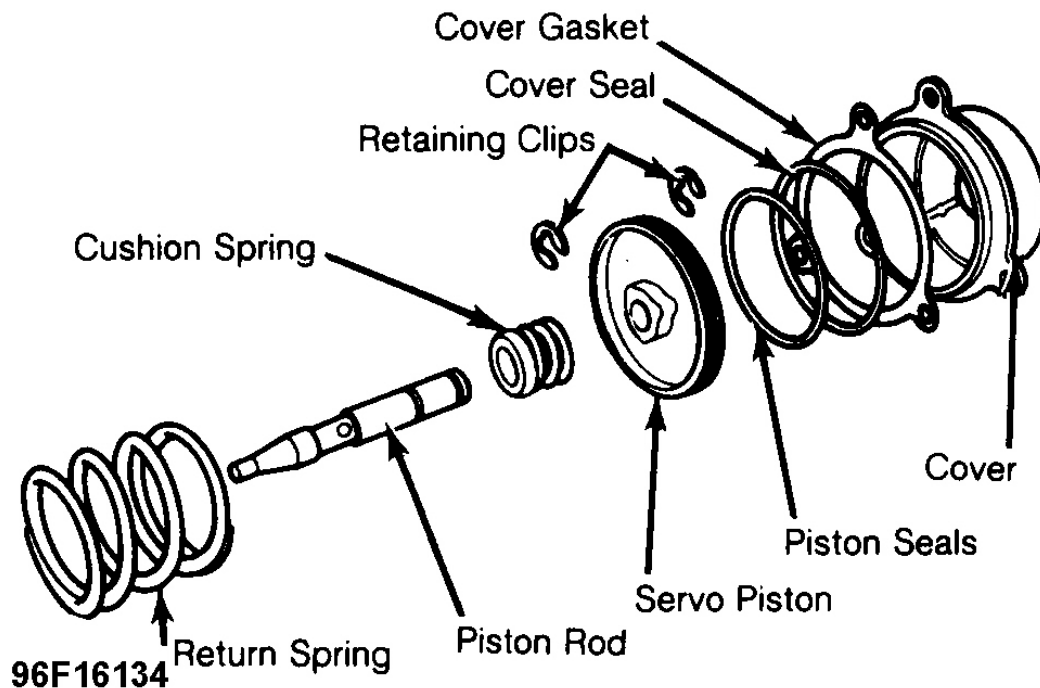

Fig. 27: Differential Left Side Gear Installation
1. With output shaft inside case, slide thrust washer and left side gear onto output shaft. Install retaining ring and slide gear down over ring. See **Fig. 27** . Install thrust washer and right side gear.